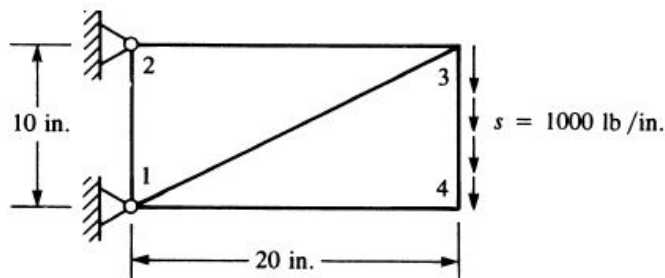

Figure P6-13
- 6.13 Determine the nodal displacements and the element stresses, including principal stresses, for the thin plate of Section 6.5 with a uniform shear load (instead of a tensile load) acting on the right edge, as shown in Figure P6-13. Use $E = 30 \times 10^6$ psi, $\nu = 0.30$, and $t = 1$ in. (Hint: The $[K]$ matrix derived in Section 6.5 and given by Eq. (6.5.22) can be used to solve the problem.)